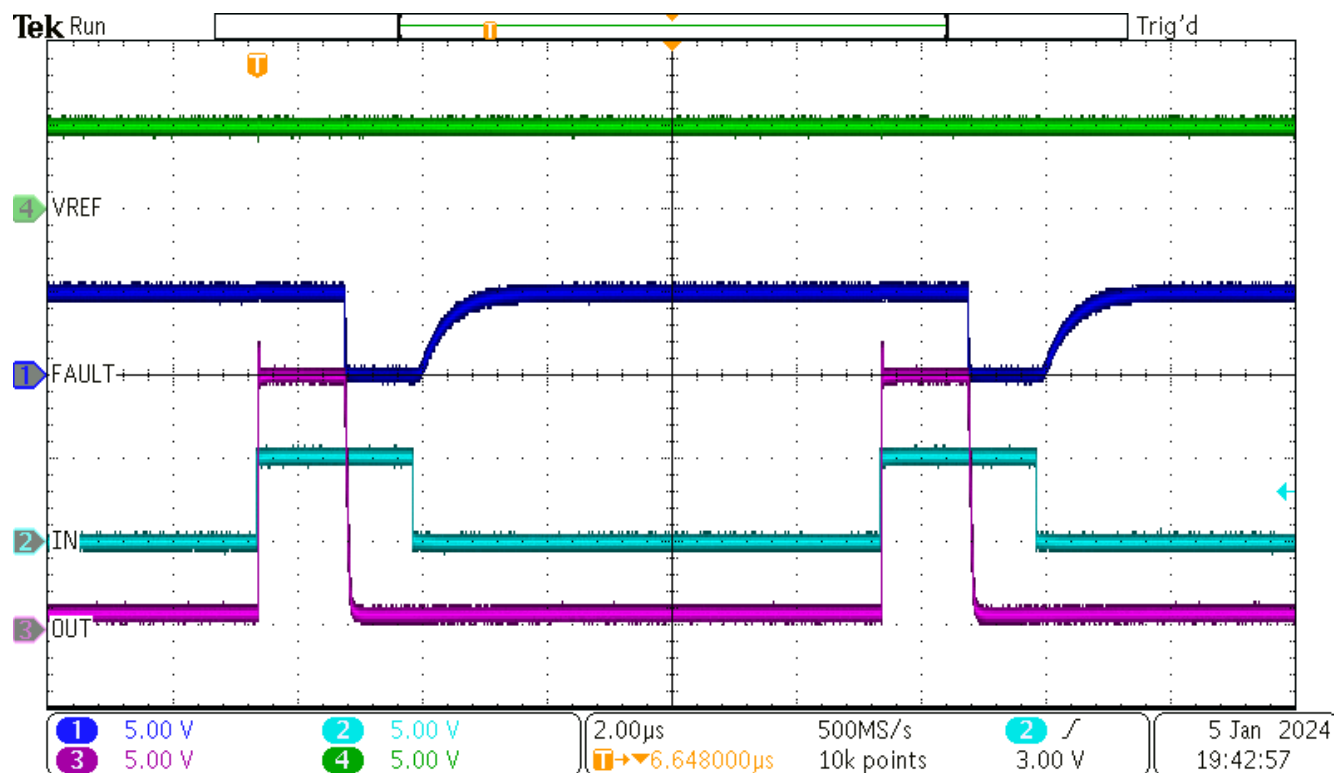

Figure 3-2. Reference waveforms for UCC57108EVM out-of-box evaluation.
- b. The OUT signal must have a narrower width compared to the IN signal. Use Figure 3-2 as reference.
- c. Look at the FAULT signal, this must be high at all times except when the OUT signal is low during the period where IN is high. When IN becomes low, the FAULT rises to high again. Use Figure 3-2 as reference.